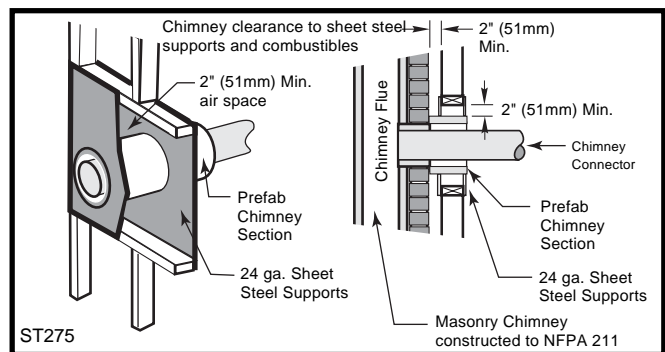

Fig. 10 Wall Pass-through with ventilated steel thimble.
- Placing a chimney connector pipe inside a section of 9" (230 mm) diameter, solid-insulated, factory-built chimney, with two inches of air space between the chimney section and combustibles. (Fig. 10)